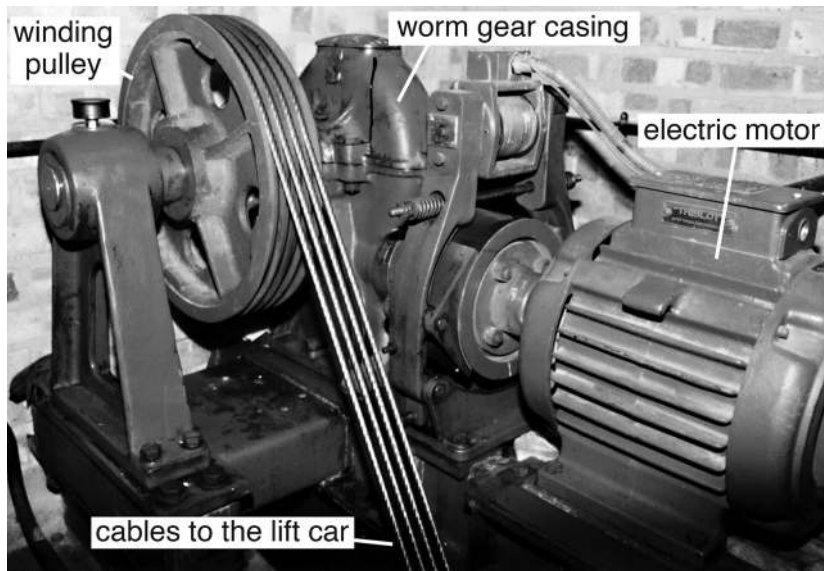

Fig. 13
- (e) Fig. 13 shows the winding mechanism for a lift or elevator.